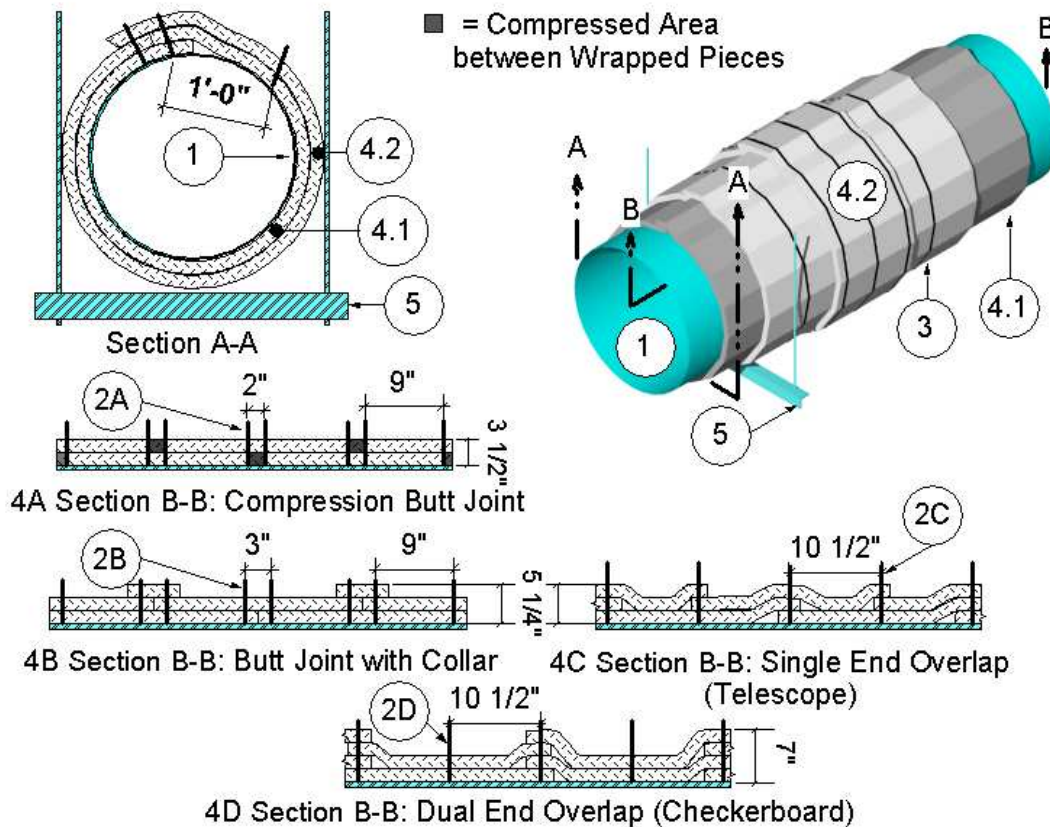

Figure 1
2. FASTENERS: Refer to Figure 1. Weld minimum 12 GA, 6-1/2 in. long, copper-coated, steel insulation pins or 12 GA, insulated cup head steel pins to the grease duct (Item 1). Match the following fastener method with corresponding insulation (Item 4) method.
INSULATION: Apply the non-combustible (ASTM E136) and durable (ASTM C518) insulation in two layers of nominal 1-1/2 in. thick, 6-pcf density blanket, made of calcium-, silica-, and magnesium-oxide (CSM) fibers, encapsulated with polypropylene-foil or aluminized polyester-foil scrim over the entire surface of the grease duct (Item 1). Apply the inner first layer (Figure 1, 4.1) in accord with one of the four methods (A, B, C, or D) that follow. Offset the second outer layer (Figure 1, 4.2) one half the width of the inner first layer (Figure 1, 4.1) so that the joints of the inner first layer (Figure 1, 4.1) are covered by and approximately in the center of the second outer layer (Figure 1, 4.2). Apply the second outer layer (Figure 1, 4.2) in accord with the same method selected for the first inner layer (Figure 1, 4.1). Use blanket, available in various widths, that is fully encapsulated or single faced with a polypropylene-foil or polyester-foil scrim. Expose a foil-faced side of insulation to view. Wrap one layer